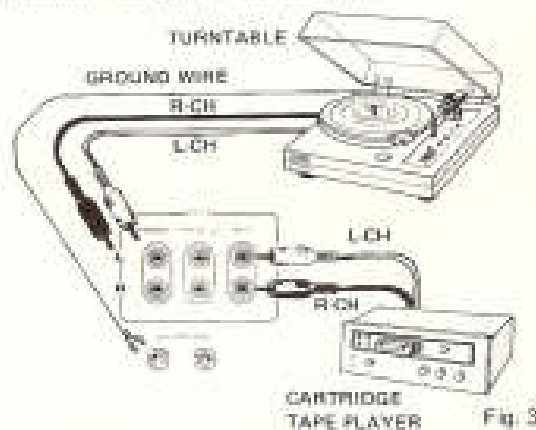

Fig. 3
- Connections between the turntable OUTPUT terminals and the receiver PHONO input jacks should be made as shown in Fig. 3, taking care not to confuse L & R channels. If, as in Fig. 3, the turntable is fitted with a ground lead or plug, this should be connected to the receiver GND terminal.